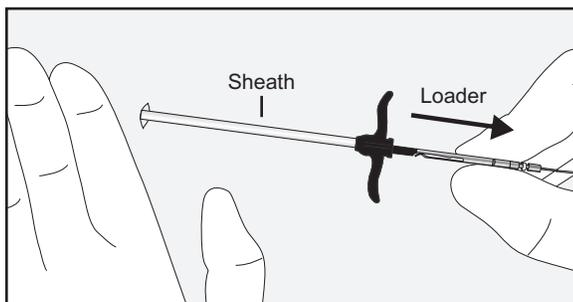

Figure 26: Withdraw the Loader From the Sheath
2. With one hand, gently apply pressure to the tissue surrounding the stimulation end of the lead. With the other hand, gently withdraw the loader from the sheath. Do not squeeze the reed connector. Pressure on the reed connector can damage the lead (see Figure 26).